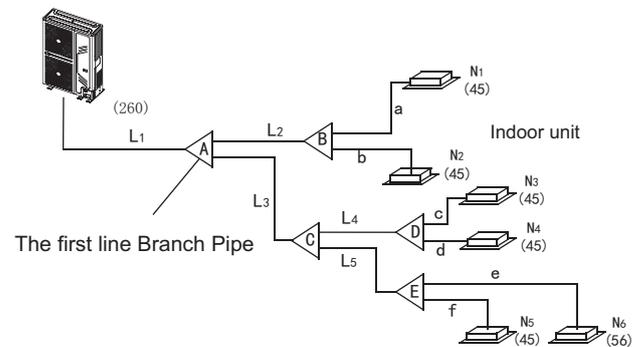

Fig.4-6
- Main pipe (Please refer to Fig.4-6 and Table 4-4)
In Fig.4-6, the main pipe L1, the outdoor unit capacity is 26kW, and check the Fig.4-6 to get the size of gas pipe/liquid pipe is  $\Phi 22.2/\Phi 9.5$ , and also the total equivalent length of liquid side and gas side pipes is  $> 90m$ , then check the Table 4-4 to get the size of gas pipe/liquid pipe is  $\Phi 25.4/\Phi 9.5$ , and according to the maximum value principle, it should apply the  $\Phi 25.4/\Phi 9.5$ .